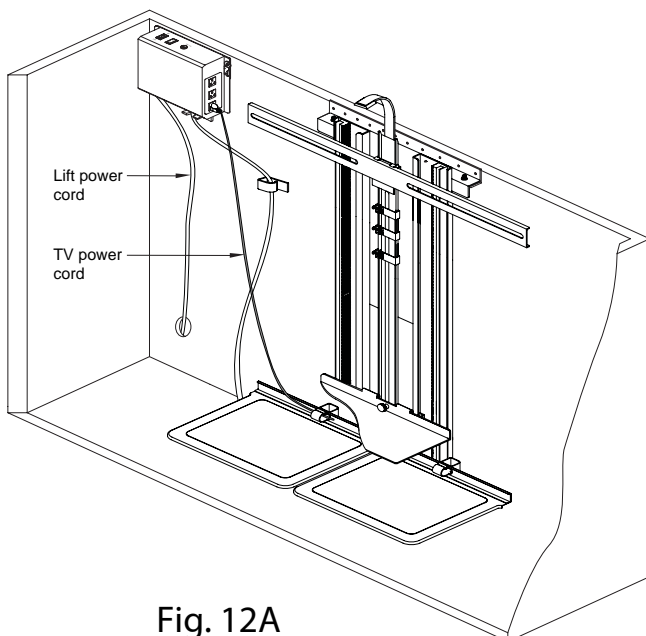

Fig. 12A
I) Run the TV's power cord through one or both of the horizontal wire management clips. If your power cord is on the left (Fig.12A), use the left clip only. If the cord is on the right side, use the left and right clip (Fig. 12B).